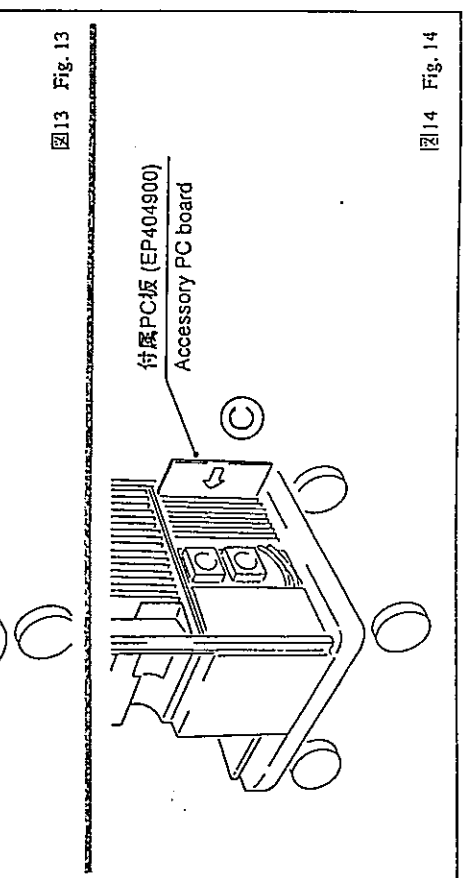

図14 Fig. 14
- (3) 付属PC板 (EP404900) を、一番右のロットに軽く突き当たるまで差し込む。(図14Ⓒ)
- (3) Continue to insert accessory PC board (EP404900) until it has lightly hit against slot at the rightmost side. (Ⓒ in Fig. 14)